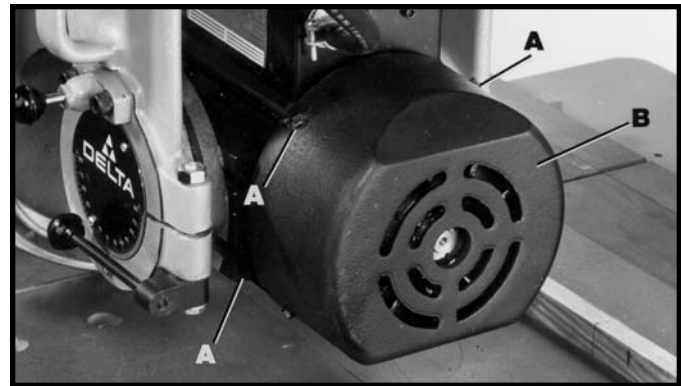

Fig. 47
2. Remove four screws, three of which are shown at (A) Fig. 47, and remove fan cover (B) from the motor.